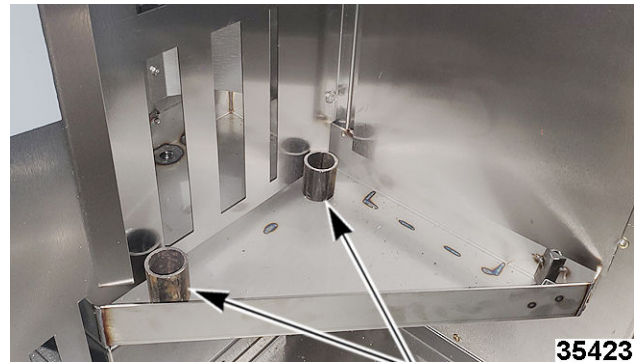
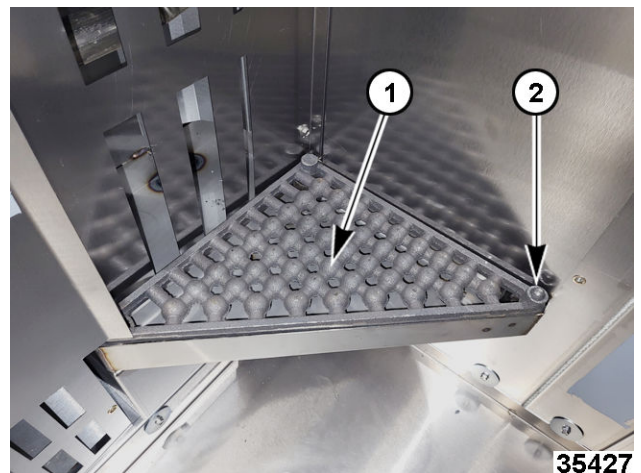
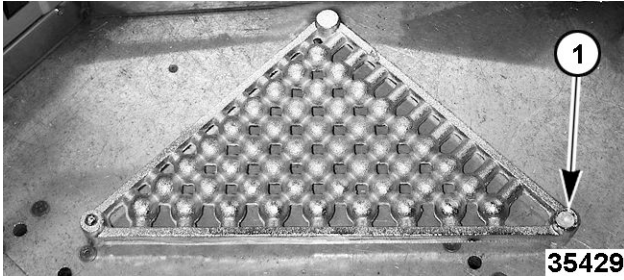

Fig. 45
Fig. 46
Fig. 47
NOTE: For OV520G1 ovens, place steam ball assembly (1, Fig. 46) on spacers (Fig. 45) to obtain correct height.
3. The next steam ball assembly must be put in place matching the female post (1, Fig. 47) with male post (2, Fig. 46) of previous assembly (total of 20 sections for OV520G1 to install).